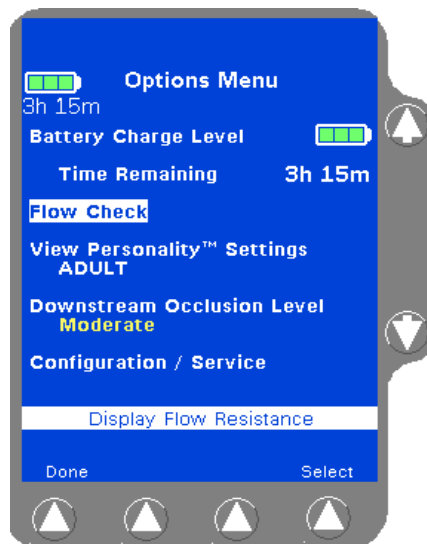

Figure 4-114 Options Menu
1. Press the **Options** soft key from the Main Display to access the Options Menu shown in Figure 4-114.